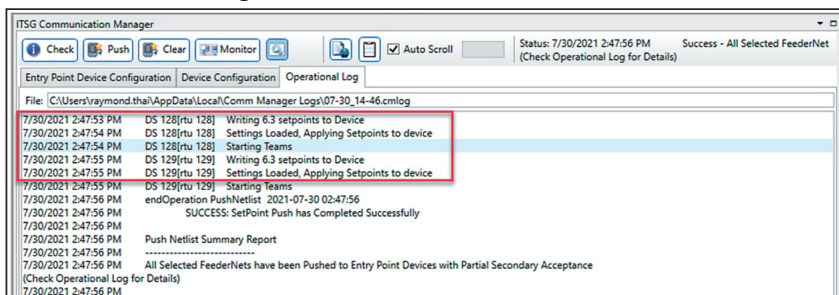

Figure 14. The Operational Log tab showing setpoint files loaded and applied.
**STEP 3.** Go to the Operational Log tab and check the log to ensure the settings are being loaded and applied to the devices. See Figure 14.